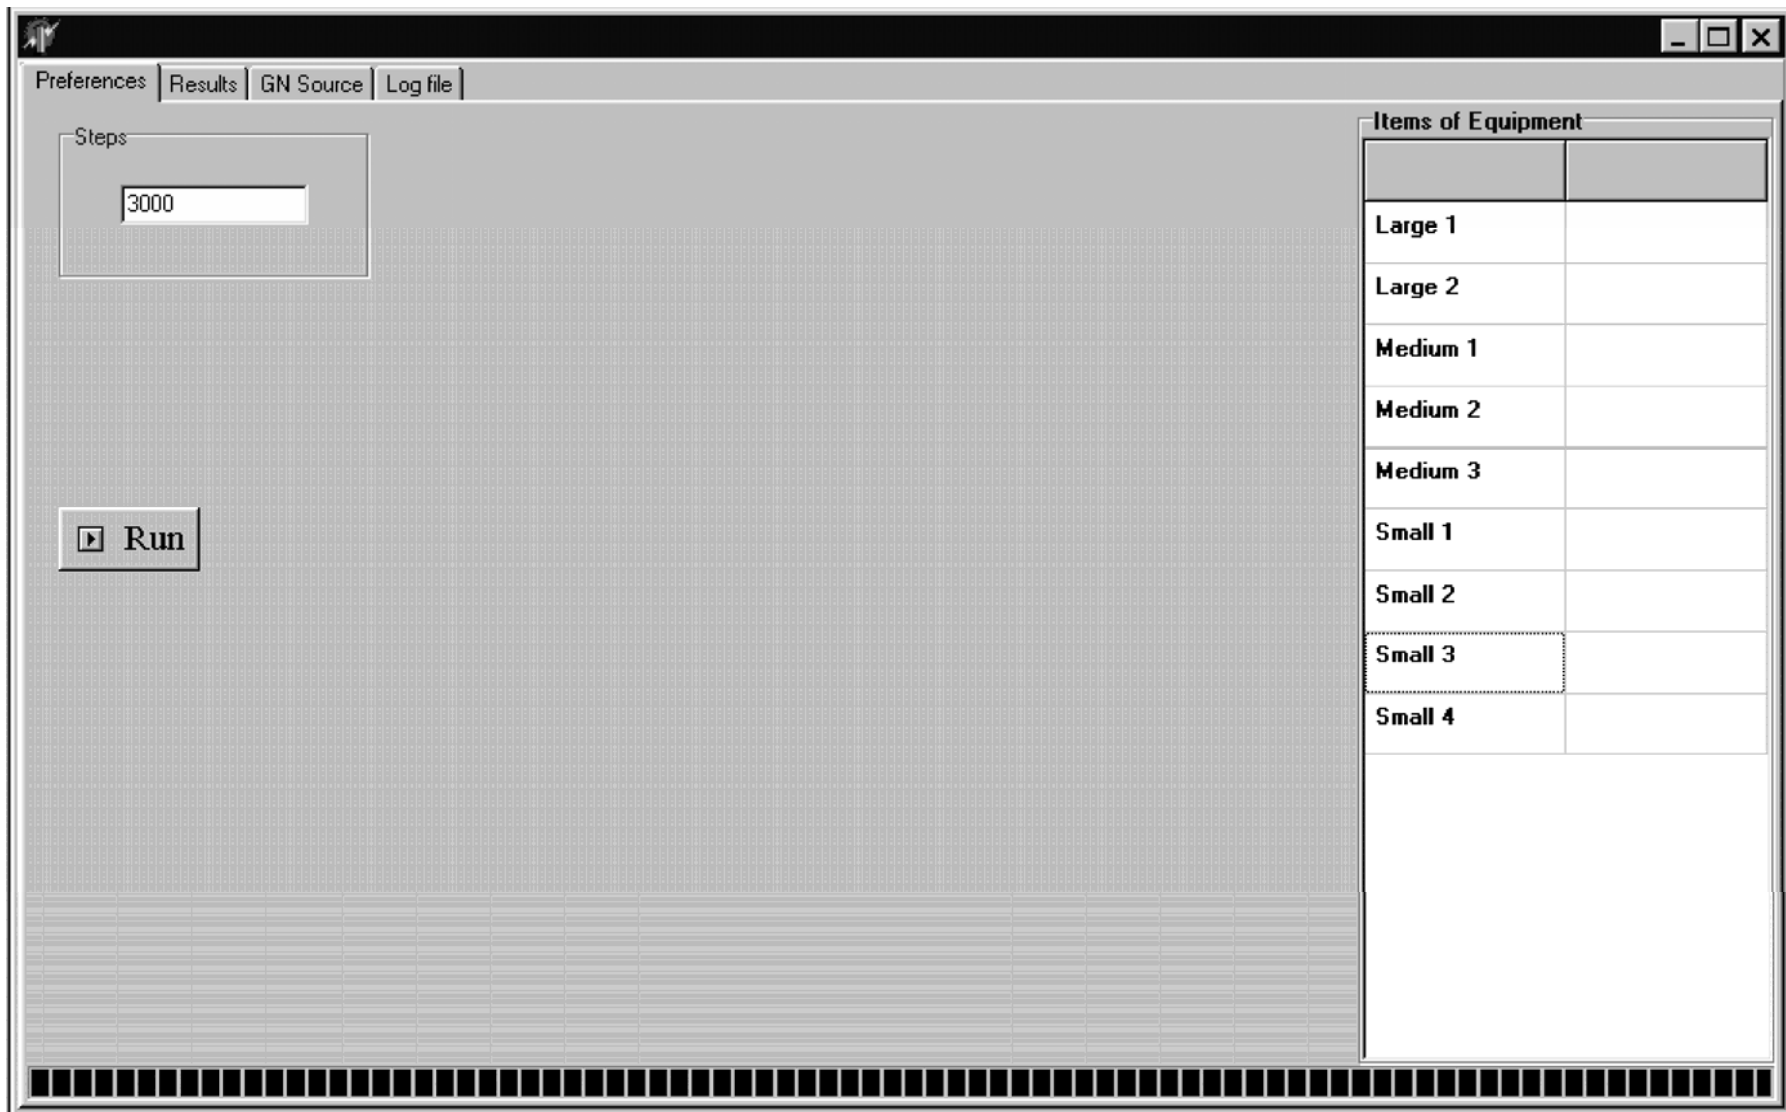

Fig. 2.
- OPTIONS – allows set up the current model – Fig. 2.
On Fig. 2. with green are shown the machines, which are not working and with red the ones which are processing details at the moment. Colours are available only in the computer project.